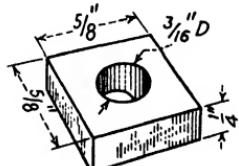

Fig. 304.
- 33.** Calculate the weight of 5,000 of the steel items in Fig. 304.